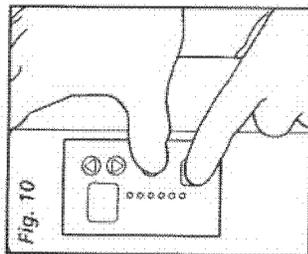

Fig. 10
3. Start the Vapotherm 2000i system in cleaning mode by pressing the Mute and Power buttons at the same time (Fig. 10). Disinfectant will circulate through gas and water circuits. Run unit in cleaning mode for the required hold time given in Appendix A for the disinfection solution used.
11. Immediately start the Vapotherm 2000i in cleaning mode by pressing the Mute and Power buttons at the same time. (Fig. 10)